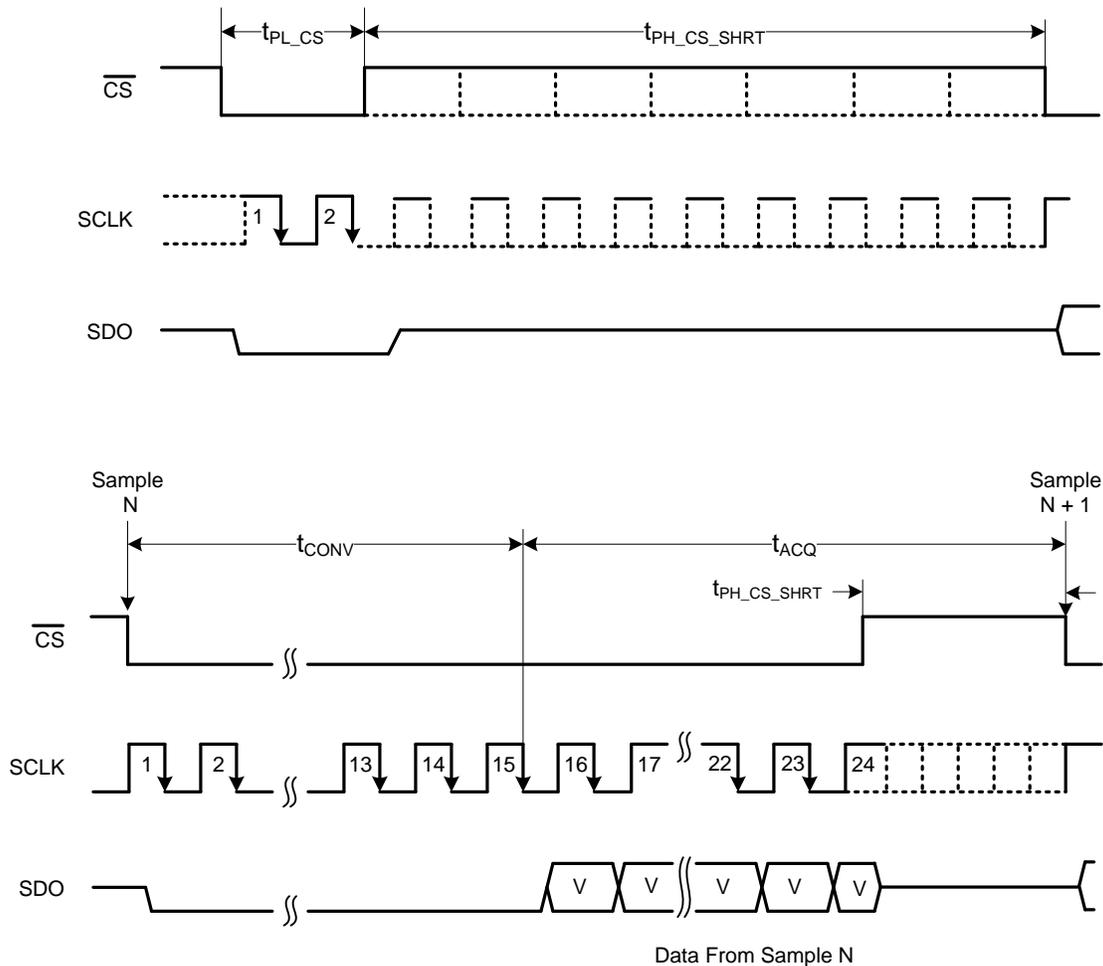

Figure 98. Frame Abort, Reconversion, or Short-Cycling Feature
As discussed in Figure 98, the minimum number of SCLK falling edges (N) that must be provided between the beginning and end of the frame depends on the serial interface mode. The SCLK falling edges (N) program the device and retrieve the conversion result. If  $\overline{\text{CS}}$  is brought high before the expected number of SCLK falling edges are provided, the current frame is aborted and the device starts sampling the new analog input signal.